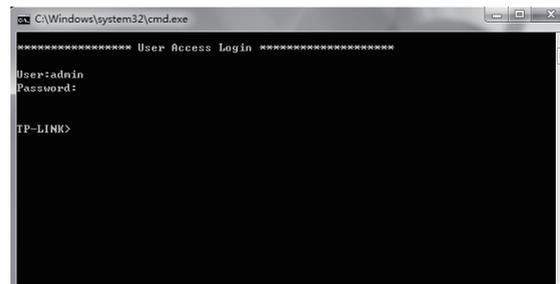

Figure 5-7 Log in the switch
4. Type the User name and Password (the factory default value for both of them is admin) and press the Enter button, then you can use the CLI now, which is shown as Figure 5-7.